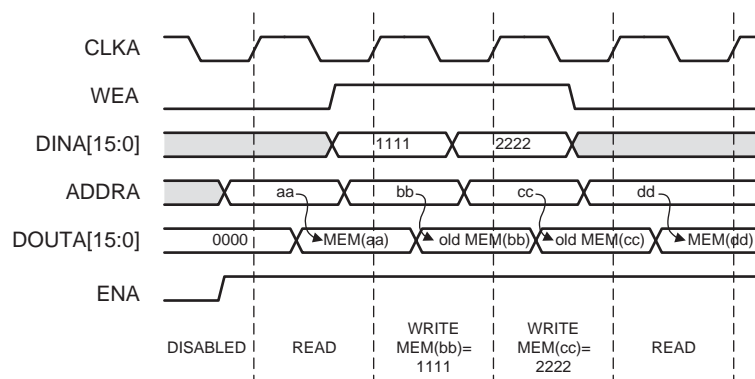

Figure 27: Read First Mode Example
- Read First Mode:** In READ\_FIRST mode, data previously stored at the Write address appears on the data output, while the input data is being stored in memory. This Read-before-Write behavior is illustrated in Figure 27.